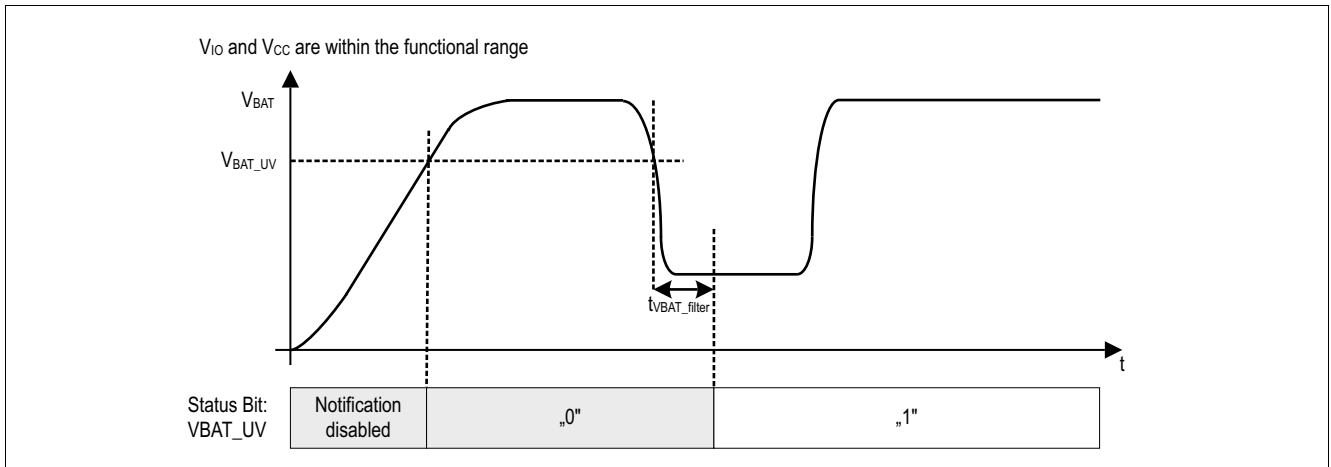

Figure 25 Undervoltage detection  $V_{BAT}$  during  $V_{BAT}$  supply stabilization period
- Set the bit **VBAT\_UV** in the SPI register **TRANS\_UV\_STAT** to "1". After the completion of a Power on Reset or after a transition from Sleep Mode to Stand-by Mode the  $V_{BAT}$  supply stabilization period must be completed before an undervoltage notification can be recorded in the **VBAT\_UV** bit. The undervoltage notification is only possible once the  $V_{BAT}$  supply has exceeded the threshold  $V_{BAT\_UV}$ , that is  $V_{BAT} > V_{BAT\_UV}$ . Figure 25 shows this scenario.